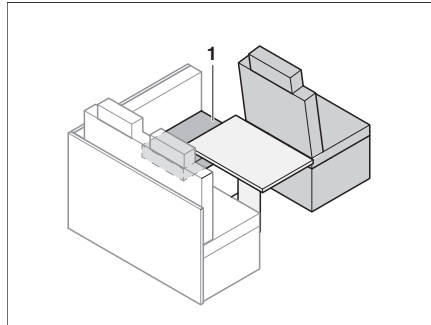

Fig. 165 Prior to conversion
- Lay the seat cushion (Fig. 165,1) to the side.